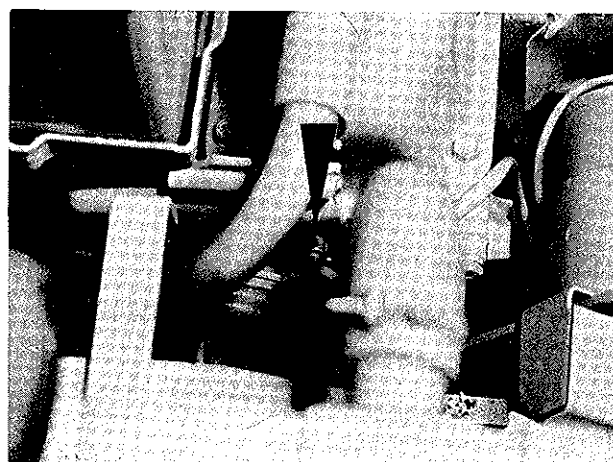

Fig. 2
5. **Temperature sender.** Remove. Identify and disconnect the lead from the temperature sender, and unscrew it from the engine (fig. 2). Either fit a new temperature sender immediately or plug the hole, to prevent coolant loss and dirt ingress.